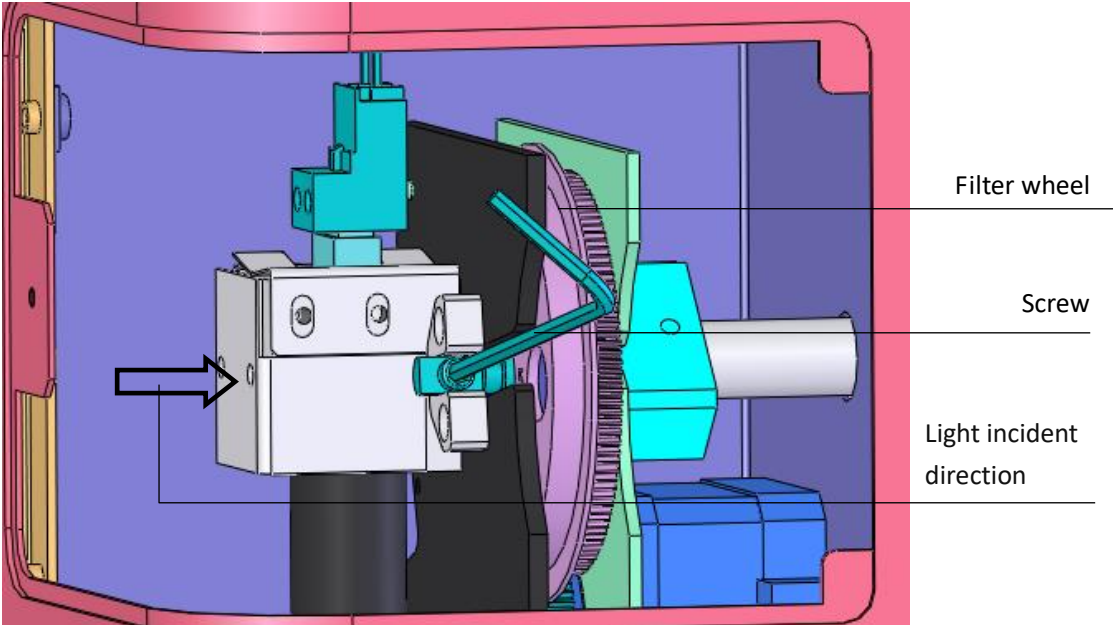

Fig 56
- Loosen the knob to open the back door, and remove the optical filter wheel using the included Allen key, (see Fig 56).